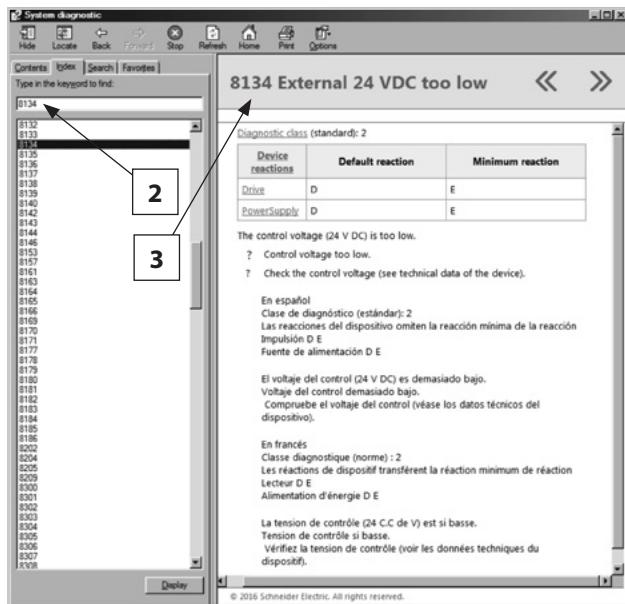
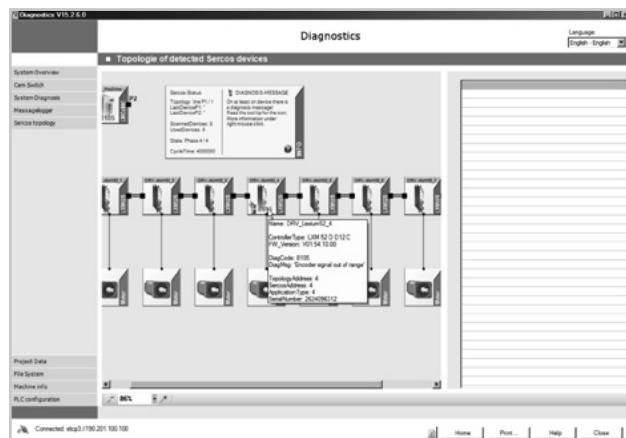

Figure 97
Figure 103
3. The possible causes, checks and corrections will be explained in English, Spanish and French on the diagnostic panel to the right (Figure 97).
For example, on Figure 103 the system located error 8979 on drive number 6. By clicking on the error code, the user can go directly to the System Diagnostic Screen (Figure 97) without the need to enter the error code manually to diagnose the problem.
Also, by clicking on the error code from Schneider Message Logger, the user can go directly to the System Diagnostic Screen (Figure 97) without the need to enter the error code manually to diagnose problems.